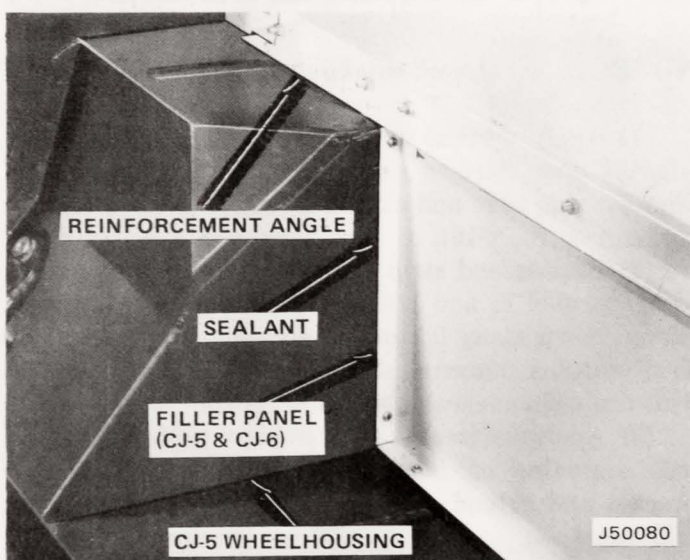

Fig. 2-12 Filler Panel and Reinforcement Angle Installed
(1) Temporarily position filler panel and reinforcement angle (fig. 2-12). Use panel and angle as templates and centerpunch hole locations on top and sides of wheel housings and on floor.